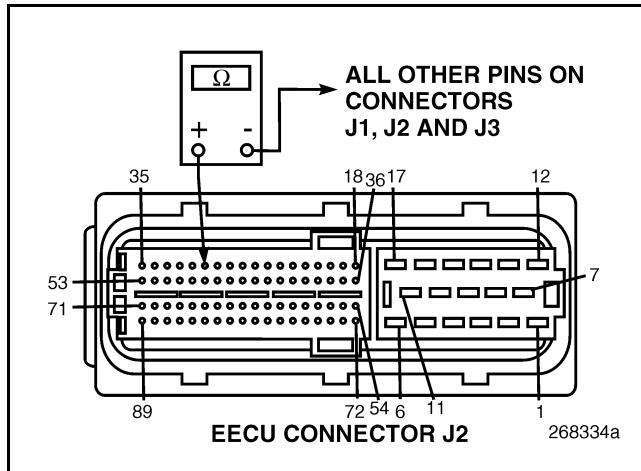

Figure 336
4. Check for continuity between EECU harness connector J2 pin 30 (reference voltage line) and all other pins in EECU harness connectors J1, J2, and J3 (see Figure 336).